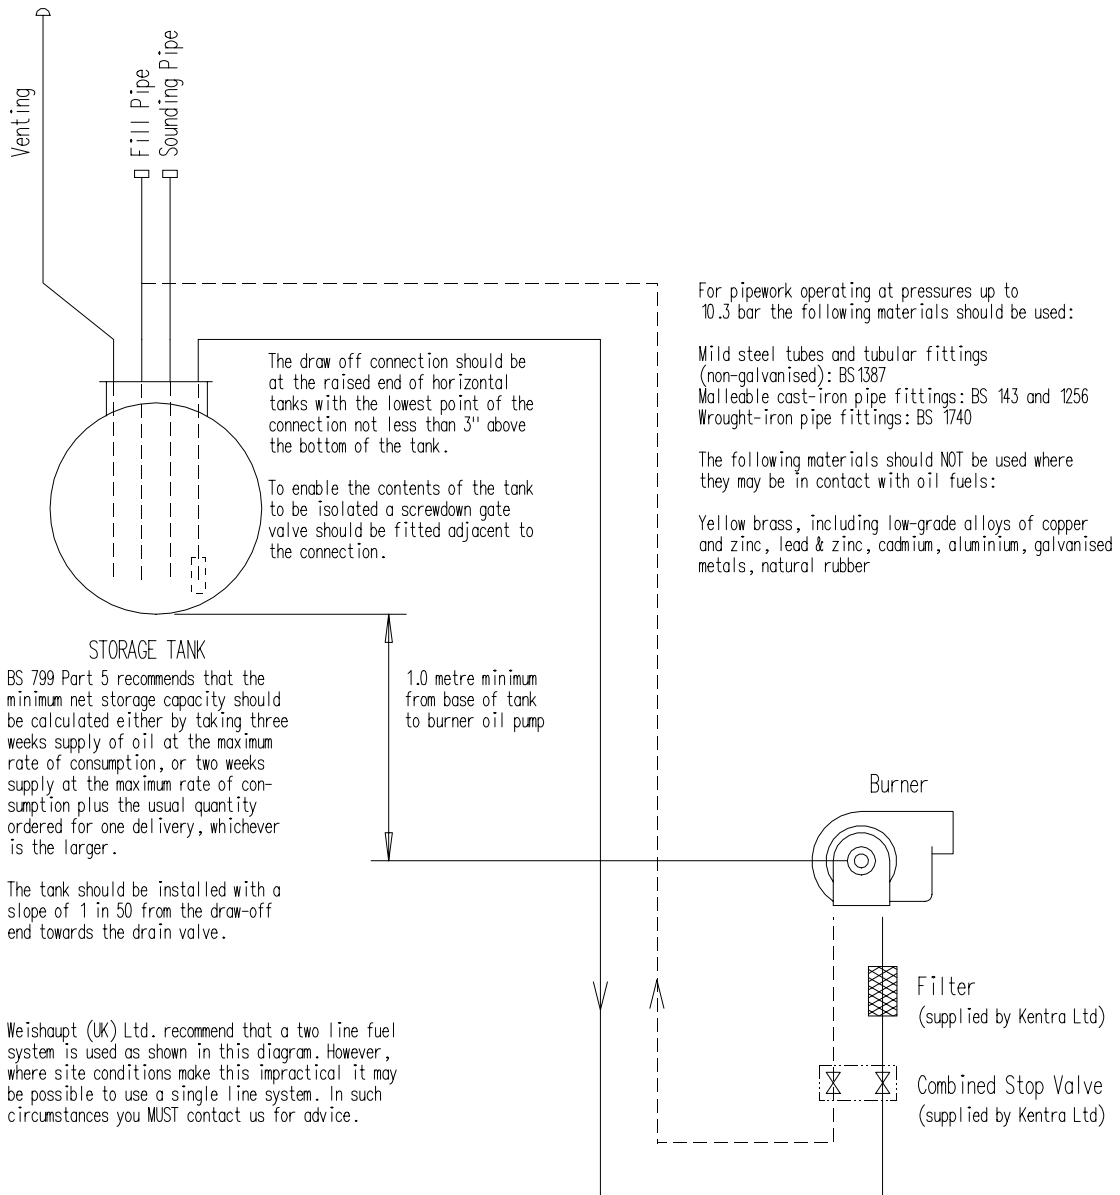

Figure 17 - Burner Oil Supply Line
c. Fuel Supply Inspection and Installation (see **Figure 17**)